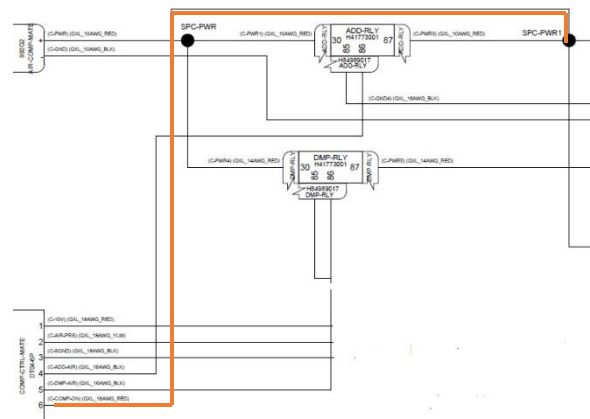

Figure 240
2. Power is then sent back to the from a splice after the compressor relay. Figure 240